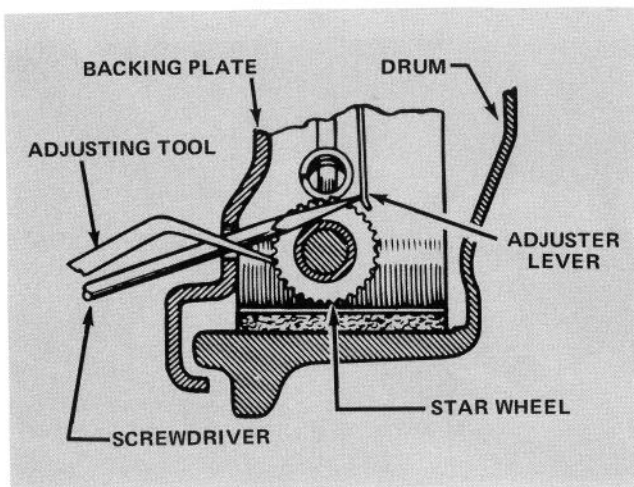

Figure 105
2. Remove wheel and drum. If shoes interfere with drum removal, hold adjuster lever away from star wheel as shown in Figure 105 while backing off adjustment.
Back off star wheel until drum is free of drag (20 to 30 notches). Use a screwdriver as shown in Figure 105 to hold adjuster lever away from star wheel while backing off adjustment.